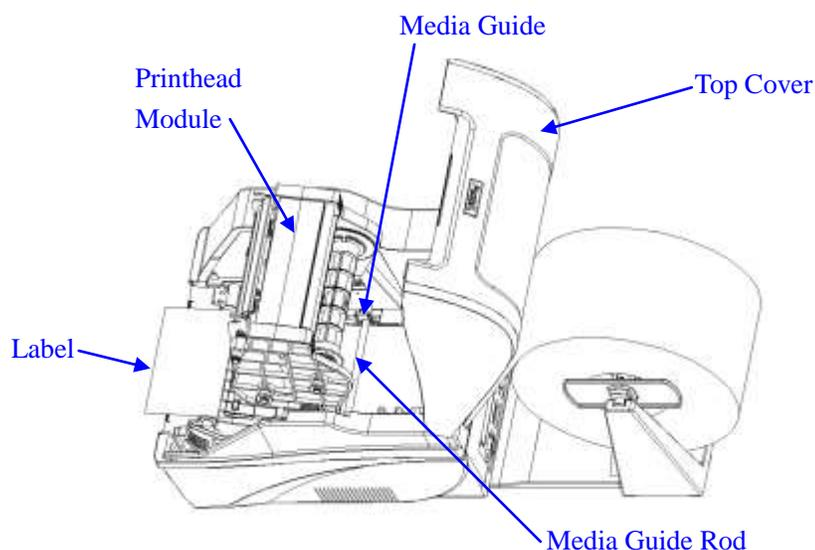

Figure 6-11
4. Lead the media through the gap found between the top cover and the printer. Then, continue to lead the media under the media guide rod and above the platen roller. Adjust the 2 media guides to the edge of the media. See Figure 6-11.